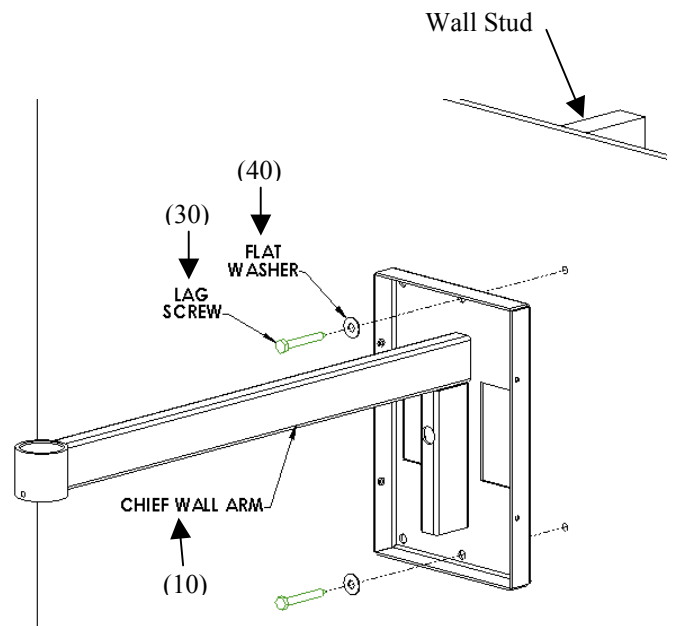

Figure 2. Install Wall Arm
1. Locate the wall arm (10), two lag bolts (30) and two flat washers (40). See Figure 2.